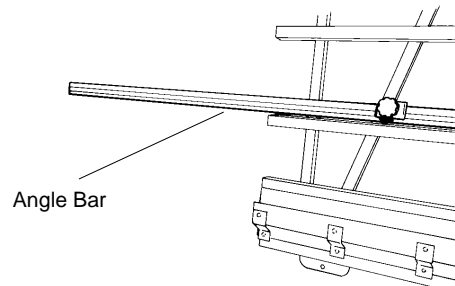

Figure 11: Installing the Quick Stop
2. Set the assembled angle bar on the next-to-lowest horizontal bar on the left side (as you are looking at the frame in Figure 11).